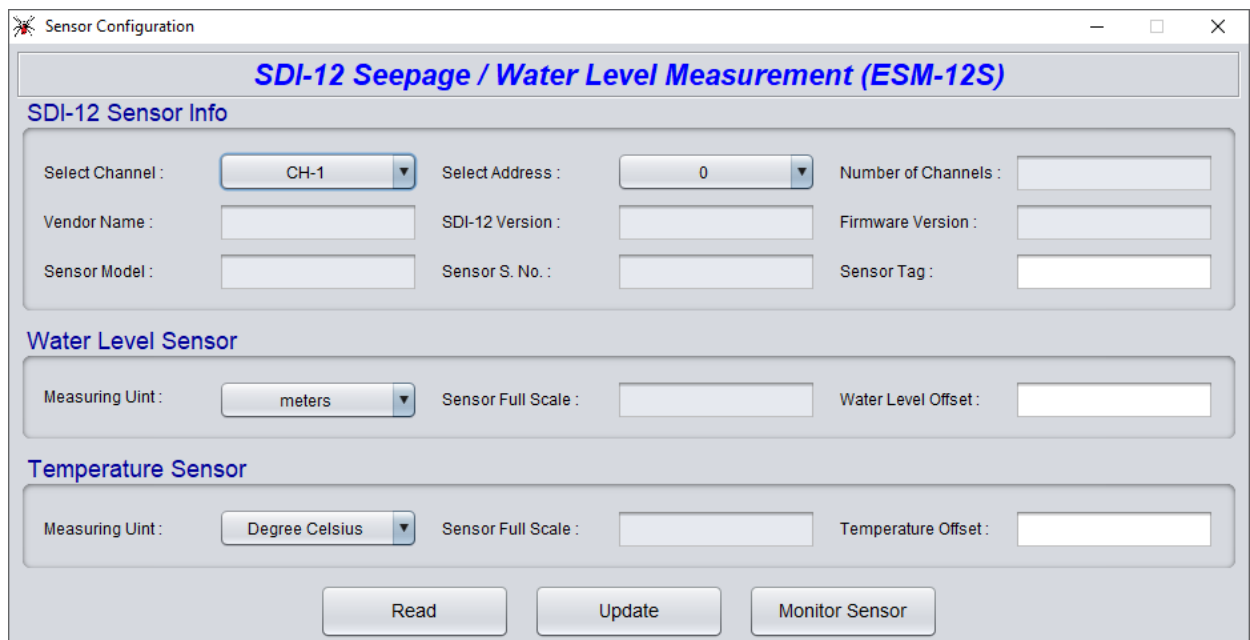
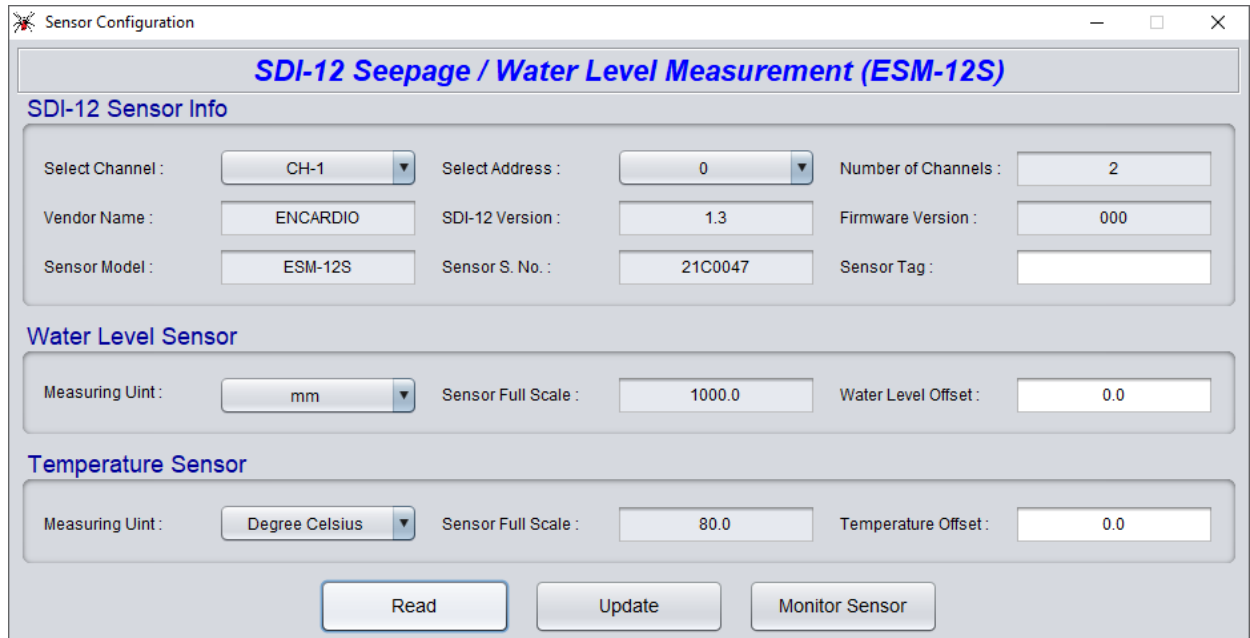

Figure 6-7
Figure 6-8 ESM-12S sensor details
7. Screen as shown in figure 6-7 will appear. Press "Read" button. The application will fetch the information stored in the sensor as shown in figure 6-8.